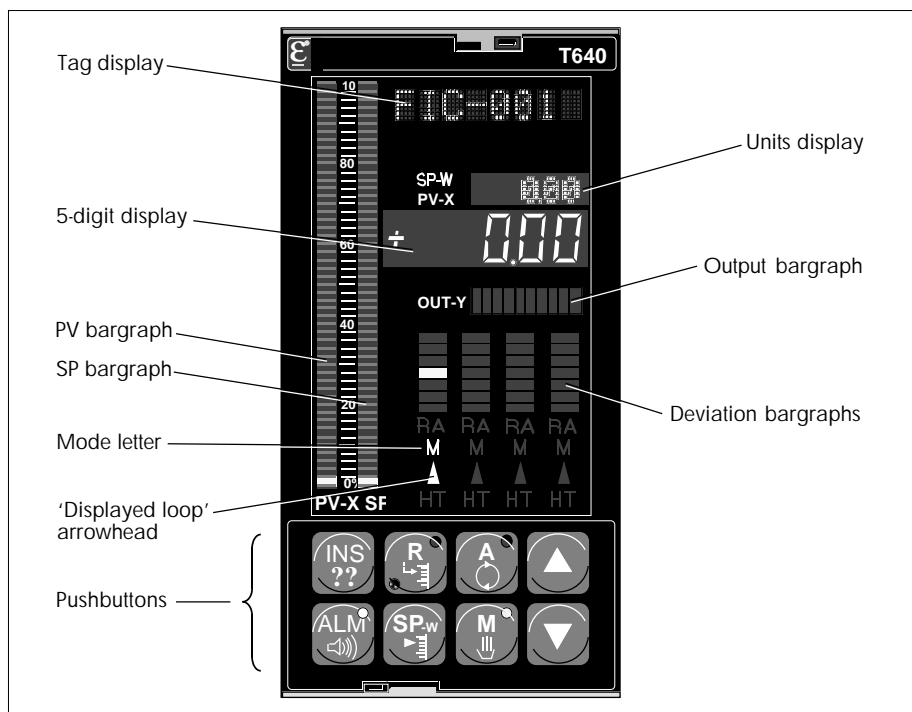

Figure 3-7 T640 front panel — initial power up
Switch on the power to the instrument. You may be quick enough to see the message **Power-on** flashing briefly in the red *tag display* at the top of the fascia (see Figure 3-7). Then **ColdStrt Trying** flashes, telling you that T640 is attempting a ‘cold startup’ of the single loop database (strategy #1). Next, if the strategy is being loaded for the very first time, you will see **Un Pack Database** flashing in the tag display as the strategy #1 file (which you selected via SW1) is being decompressed from storage in ROM. You may also hear the clicking of a relay closing and opening just after these messages.
Finally, the fascia adopts the normal display shown in Figure 3-7.
Refer to Figure 3-7. **FIC-001** in the red tag display is the loop's 'tagname', appropriate to a flow controller. Note that you can select an alternative tagname if you wish — see Table 5-5 in Chapter 5 — but 'FIC-001' will do for this tutorial. The green **0.00** appearing in the *units display* — accompanied by the glowing green **SP-W** legend — shows the loop's setpoint (SP) value. The red *5-digit display* shows the current PV value (also **0.00**), accompanied by the glowing red **PV-X** legend.
The resultant setpoint is currently 0.00 units, as shown in the green units display (see Figure 3-7). Alter this to about 50 units as follows: